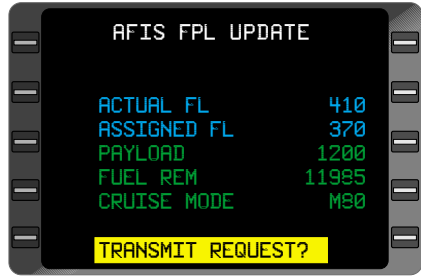

Figure 7-127
14. **ENTER** Key - DEPRESS. The cursor positions over **TRANSMIT REQUEST?** field. (Figure 7-127)